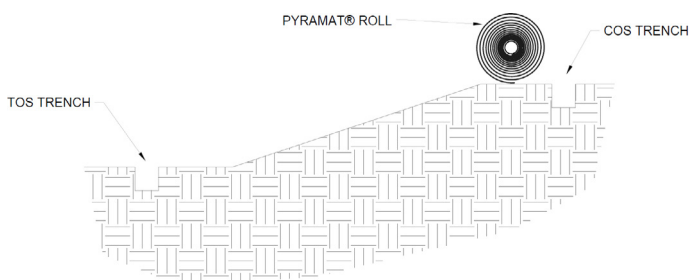
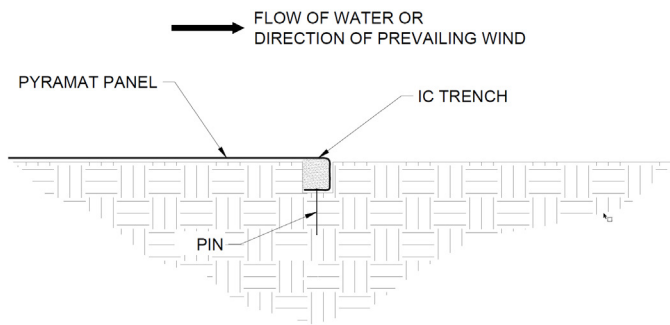
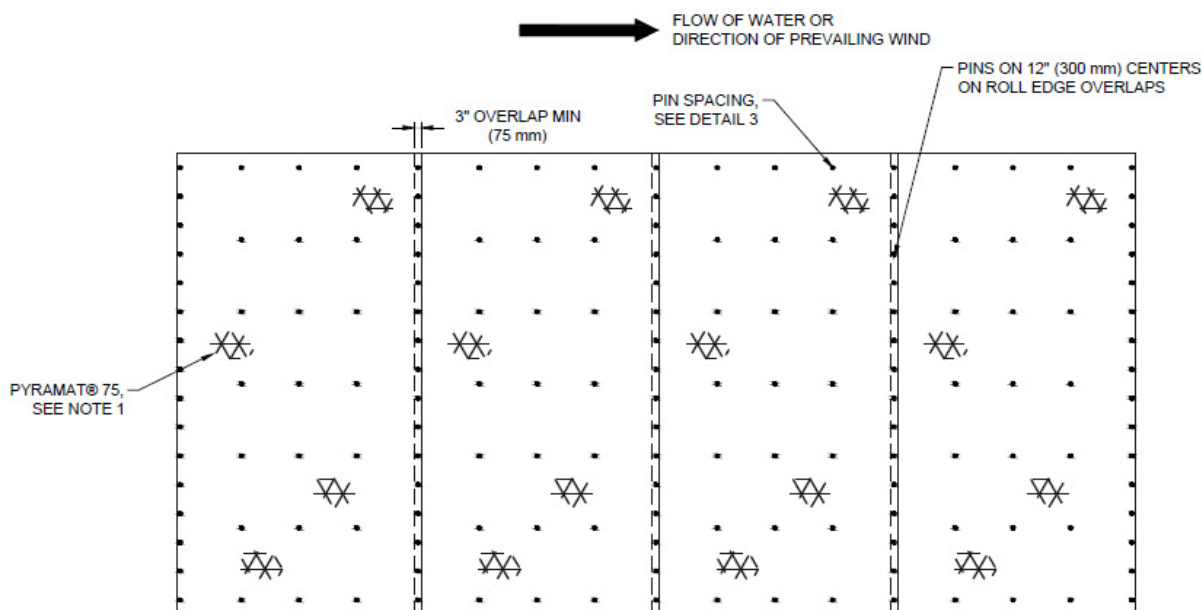
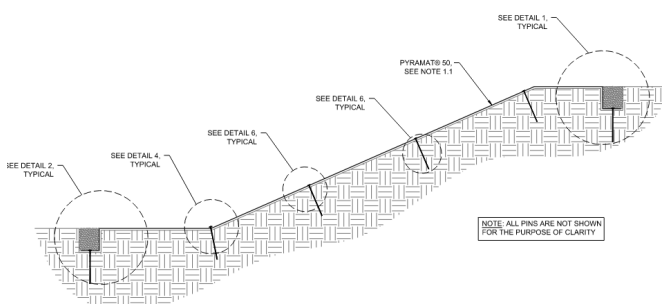

Figure 3: Crest of Slope (COS) trench alignment
Figure 7: Example pin pattern
Figure 8: Example of panel overlap
Figure 13: Completed slope elevation view
- Starting at the COS trench, lay the **PROPEX** Pyramat roll so that the roll ends point towards the crest of the slope (Figure 3), with a 3 in (75 mm) overlap created at adjacent panel edge locations. Ensure that adjacent panel edges maintain a minimum 3 in (75 mm) overlap during the material laydown (Figure 8).
- Secure **PROPEX** Pyramat panels in place using pins across the slope surface according to the project's engineered design. Pin placement should reflect a checkerboard pattern across the slope surface for best results (Figure 7 and Figure 8).
- Roll edges shall be overlapped a minimum of 3 in (75 mm) and a maximum of 6 in (150 mm) with pins placed on 12 in (300 mm) centers (Figure 8).
9. Continue to work down the length of the slope by repeating steps 1 through 8 overlapping each adjacent panel by 3 in (75 mm) (Figure 8). The last panel should terminate on the Slope Armoring Edge (SAE) with pins on 12 in (300 mm) centers. At a minimum, panels should be pinned entirely across the slope surface, pins should be installed in the trenches, and the trenches should be backfilled and compacted at the end of each day to minimize rework in the case of a major rain event. Specific project conditions may warrant further evaluation of installation order for ease. An example elevation view (Figure 13) of a slope armored with **PROPEX** Pyramat can be seen below for overall reference. Consult Solmax engineering services at (800) 621-1273 with any questions that you may have.